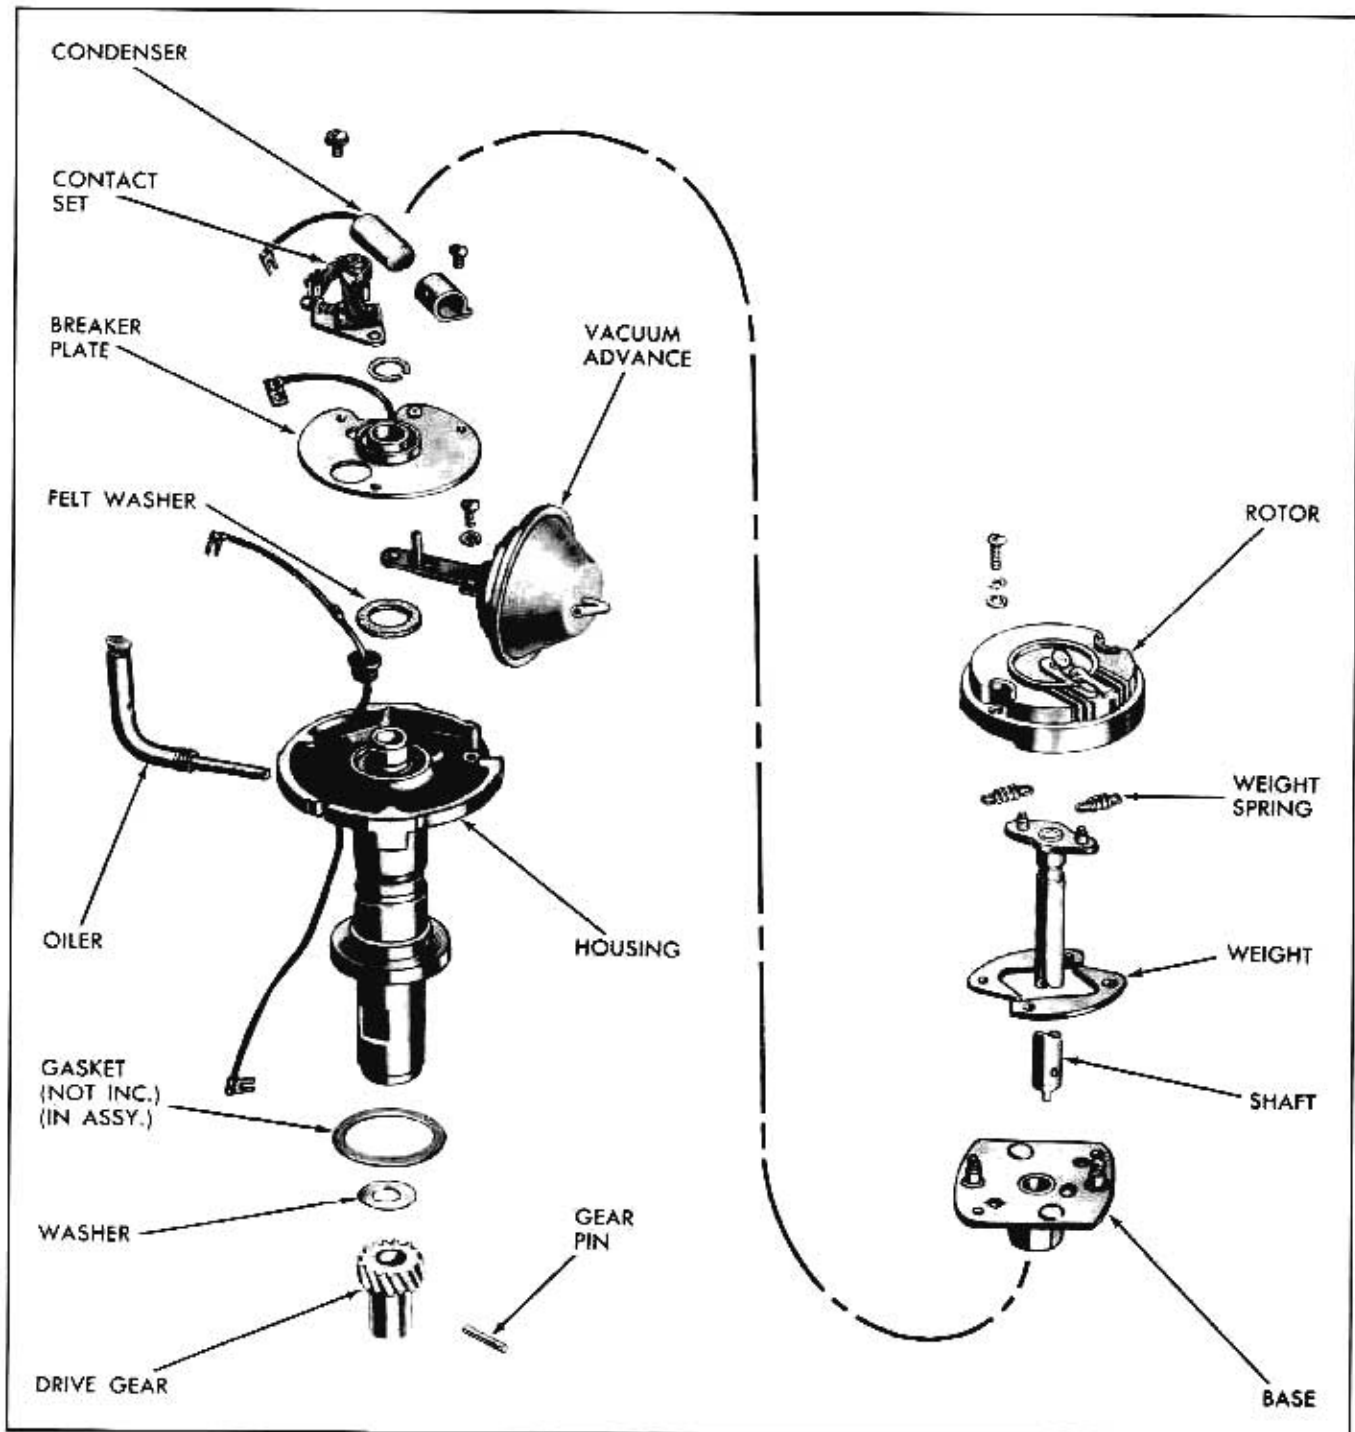

Fig. 11-42 Exploded View of Distributor (4 Cylinder Engine Distributor Shown)
1. Remove the rotor by removing the two attaching screws, lock washers, and flat washers (Fig. 11-42).